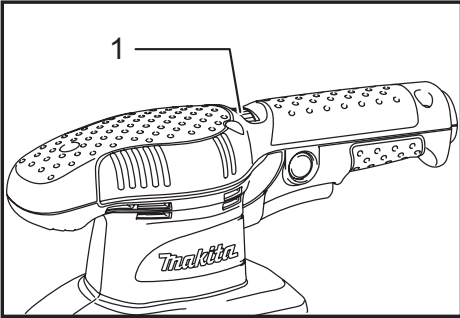

Fig.2
► **Fig.2:** 1. Speed adjusting dial